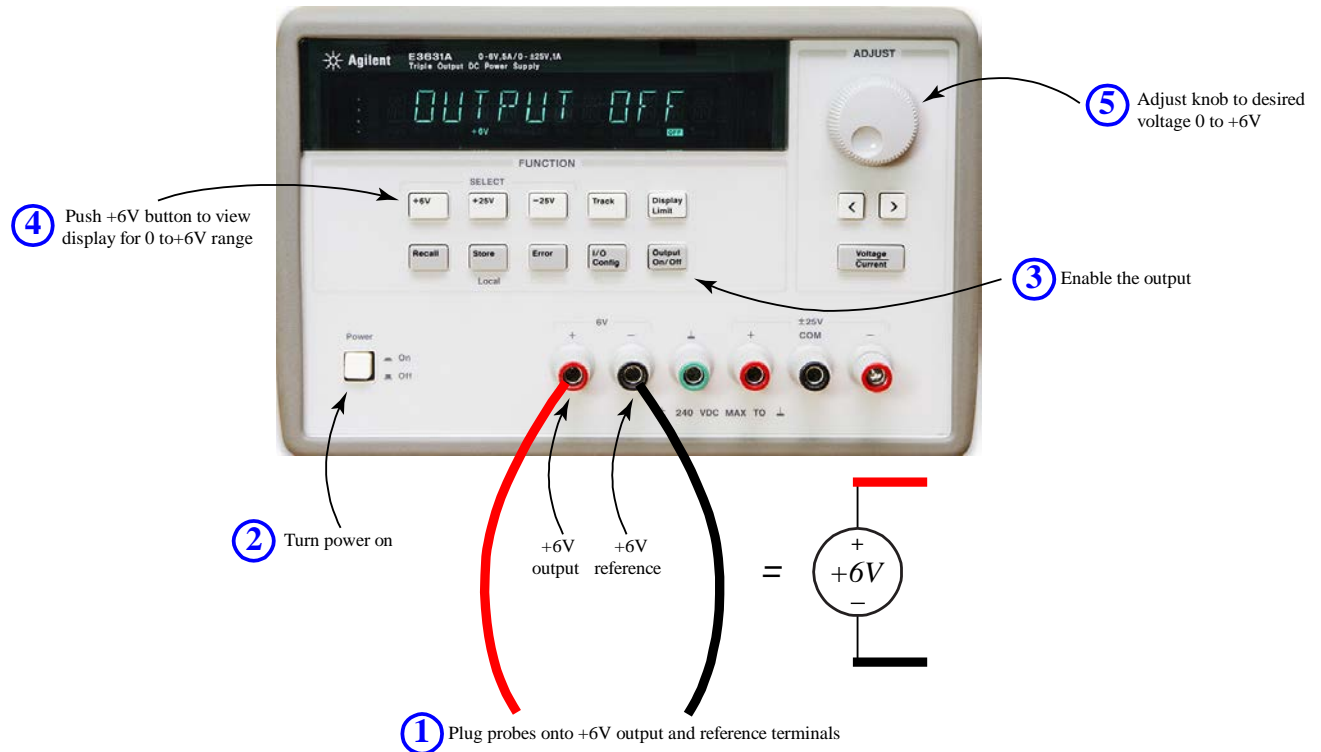
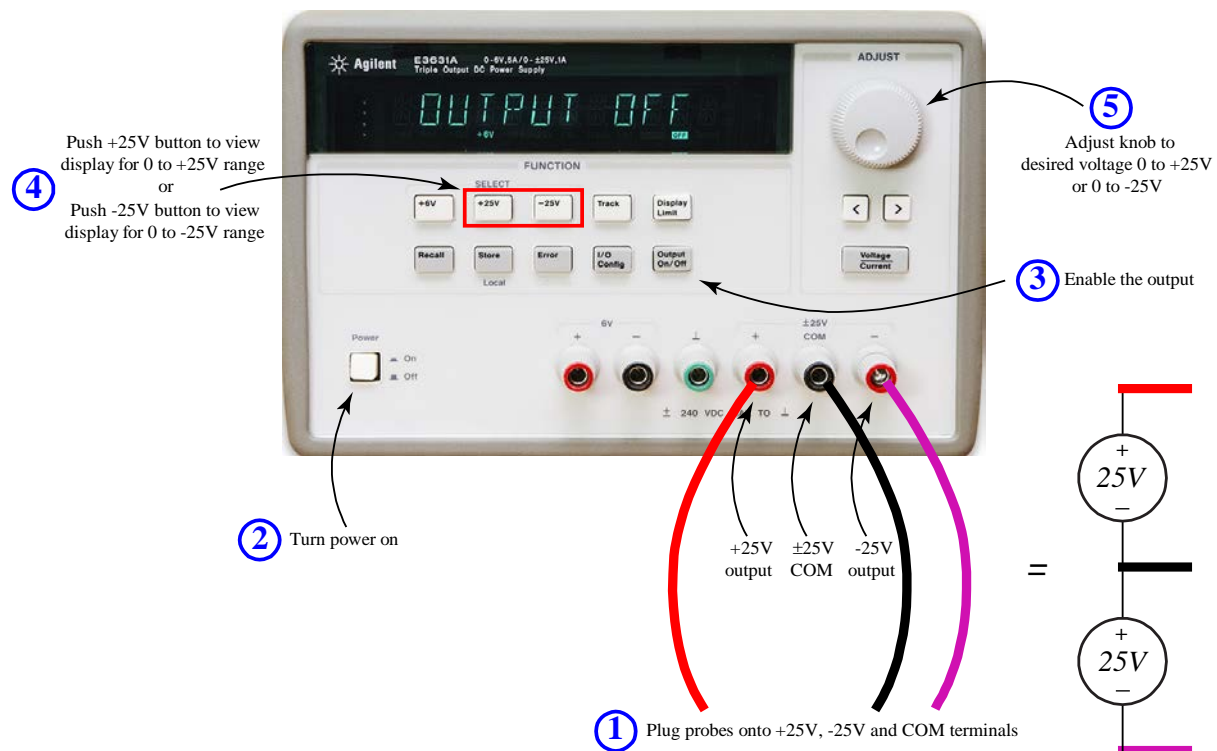
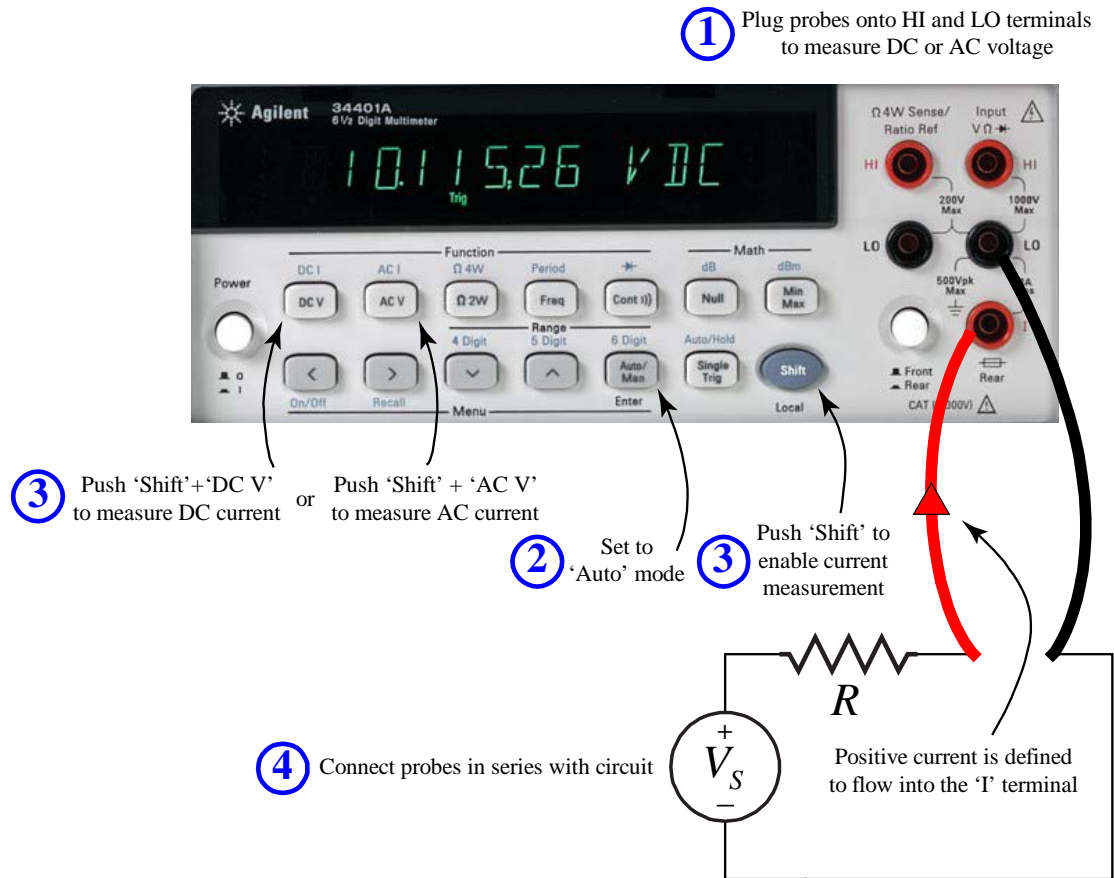
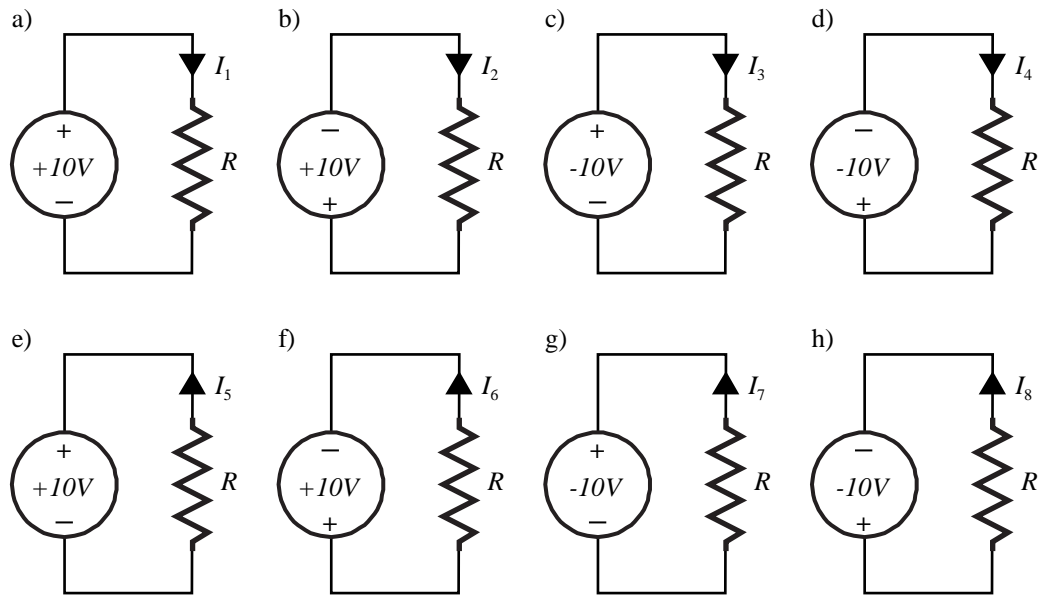

Figure 2: Using the 0 to +6 volt adjustable single supply
Figure 3: Using the 0 to +20 volt adjustable single supply
Figure 6: Using the DMM to measure DC current
Figure 8: Circuit for part 3
Figure 2 shows the procedure for using the power supply to provide a single voltage adjustable between 0 and +6 volts.
Figure 3 shows the procedure for using the power supply to provide a single voltage adjustable between 0 and +25V, or between 0 and -25V, or both!
The configuration of the DMM to measure DC current is shown in Figure 6.
- a. Set up the circuit shown in Figure 6 using resistor R_1 and the voltage source in its 0 to +25V configuration as the voltage source, V_S .
- a. Set up the power supply and DMM to measure the current, I , in each of the circuits shown in Figure 8. Choose $R = 1k\Omega$. Pay attention to the convention of voltage and current, as discussed in conjunction with Figure 2, Figure 3 and Figure 6; namely, the COM terminal of the voltage supply is equivalent to the '-' terminal of the circuit and the arrow on the head of the resistor indicates the direction in which current flow is taken to be positive